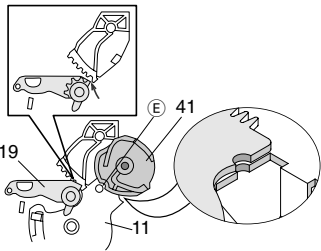
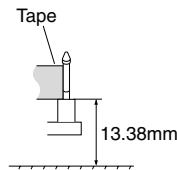

Fig. 23
Fig. 24
- Fit the reverse guide lever (Pos. 19) as shown in Fig. 23 and set it with the height adjustment nut (Pos. 214) to 13.38mm (Fig. 24).
- Check the drive mechanism in "tape unthreaded" mode: the semi-circular groove of the pinch roller drive lever (Pos. 11) must be above the groove of the mechanism chassis (Fig. 23). If necessary, adjust the drive mechanism in this mode, e.g. by turning the loading motor driver (Pos. 47, Fig. 4) by means of a screwdriver.
- Insert the pinch roller cam wheel (Pos. 41, Fig. 23) so that its semicircular cutout is above the round recess of the pinch roller cam wheel  $\text{E}$  (Pos. 11)